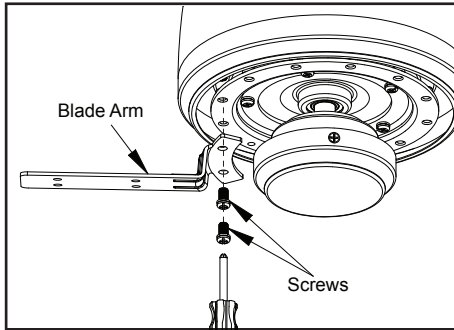

Figure 15
1. Fasten the blade brackets to the fan-motor assembly by inserting the alignment post into the slot on the bottom of the motor, then securing the blade brackets using the blade arm screws. (Figure 15)